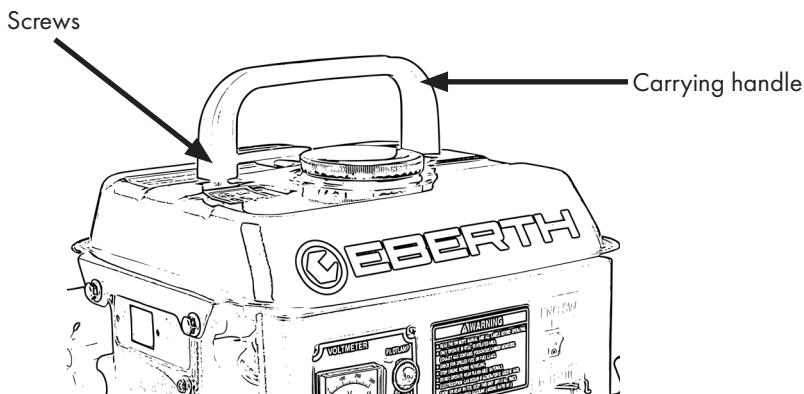

Figure 3
- Attach the carrying handle in the position shown in Figure 3 and fasten the screws.